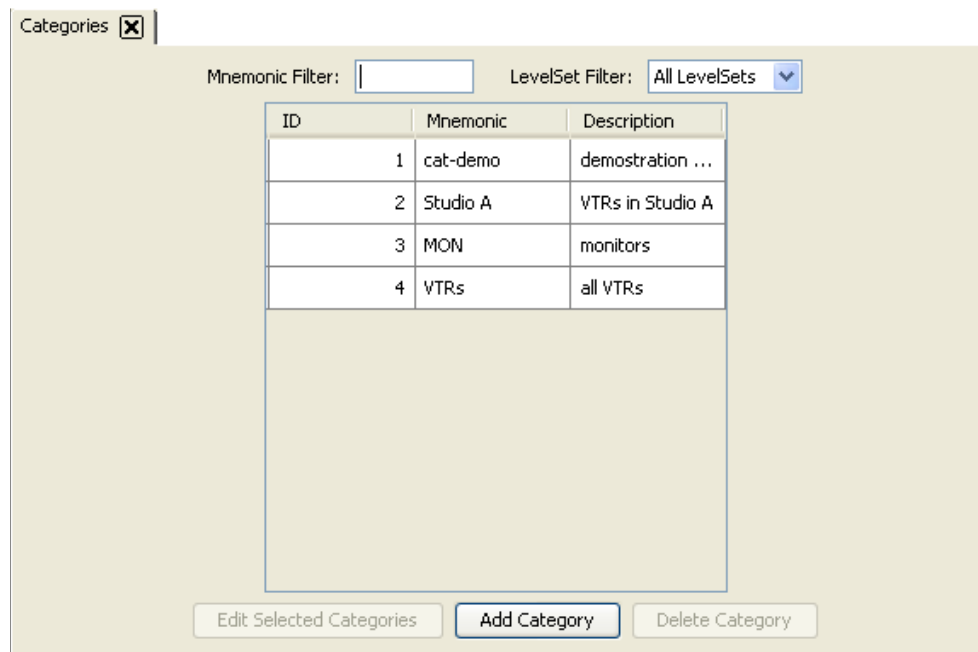

Figure 10-14. Categories Page
- 2 From the Navigation area, select the 'Configuration' pane and then 'Categories'. The 'Categories' page appears, as shown in Figure 10-14.